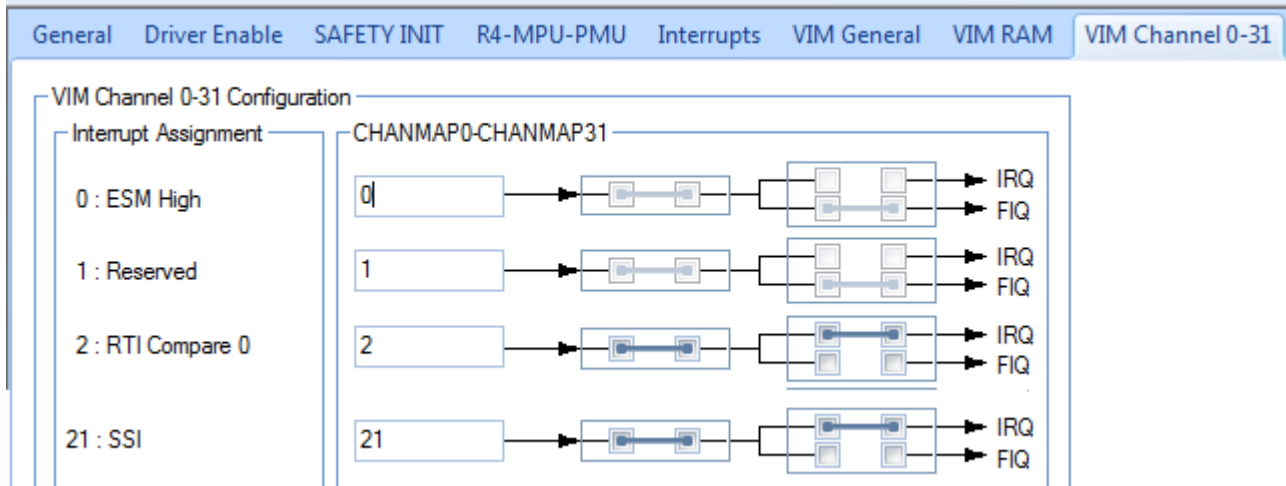

Figure 6. VIM Configuration
- Set VIM configurations as shown in Figure 6. FreeRTOS uses 2 interrupts: RTI Compare 0 and System Software Interrupt (SSI) (see Figure 7).